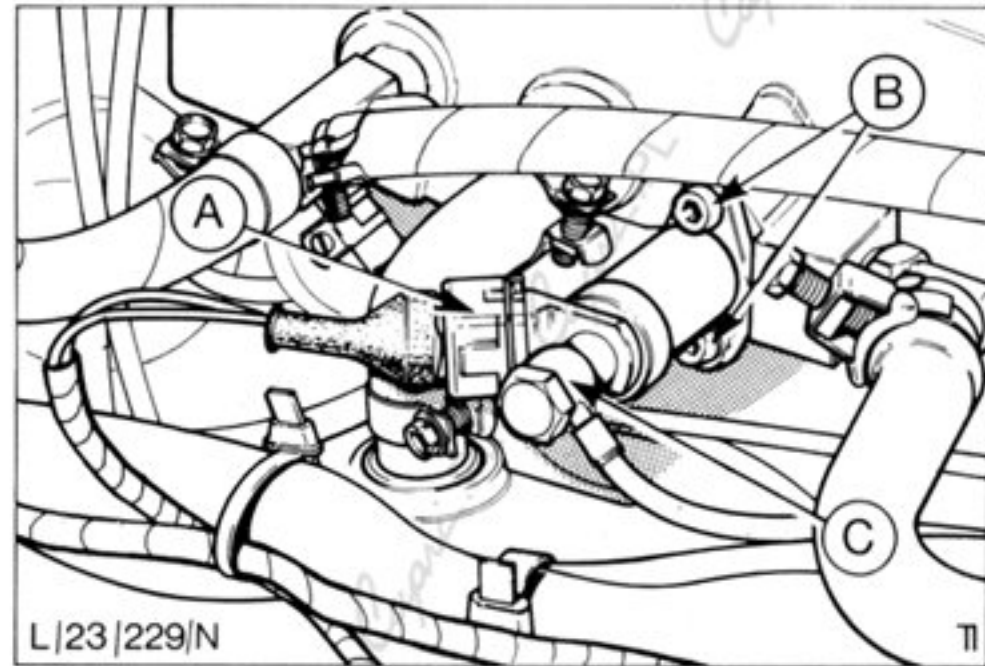

Fig.86. Fuel start valve.
5. Remove two allan screws and detach valve, Fig.86.